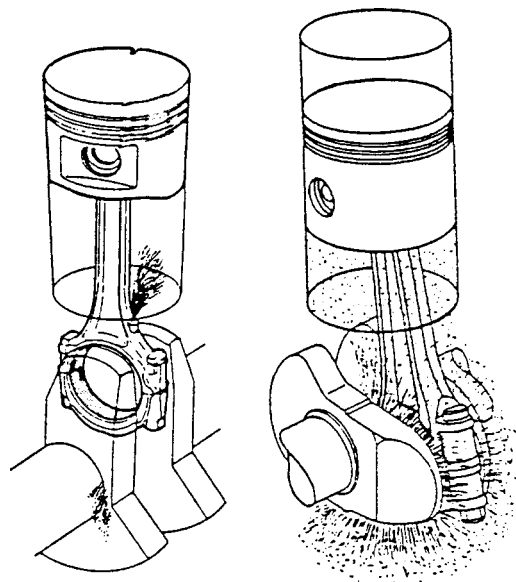

**Fig. 1.49** Bearing surface shown under a microscope. Oil under pressure keeps the surfaces apart
When looking at the working surfaces of, say, the crankshaft (A in Fig. 1.49) and the main bearings in which it runs (B) they